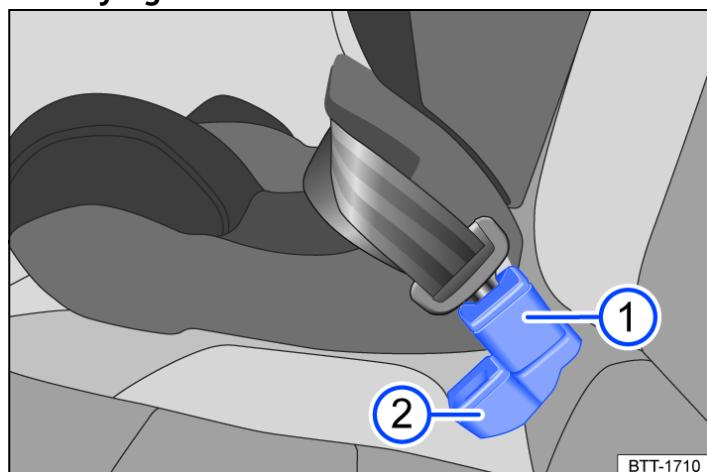

Fig. 1 Position of seat belt buckles on the rear bench seat
- Push the buckle for the middle seat → *Fig. 1* ① behind the buckle for the outside seat → *Fig. 1* ②.
- Insert the latch plate of the seat belt of the middle seat into the buckle for the middle seat → *Fig. 1* ① and push it down until it audibly engages.
- To ensure the seat belt is correctly fastened do not twist the buckles → *Fig. 1*.